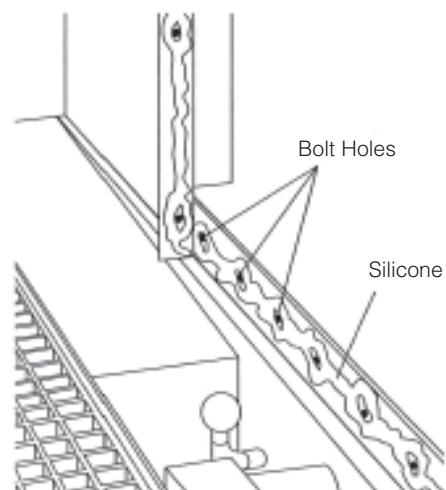

Figure 3-10. Silicone Vertical Panel Joint and Base
9. Starting from top of installed panel, silicone around and between bolt holes along the vertical panel joint and along inside of base (see Figure 3-10). When caulking base, ensure to silicone around the number of bolt holes counted plus one.